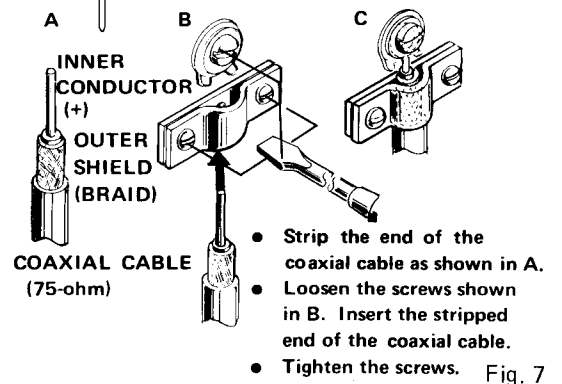

Fig. 7
- In locations adjacent to heavily traveled streets, around factories or near high-voltage power transmission lines, use of an FM antenna may not give the desired noise attenuation. In such cases, consult your dealer concerning a coaxial cable feeder ( $75\Omega$ ) for the FM antenna. When using coaxial cable, make connections to the receiver as shown in Fig. 7.